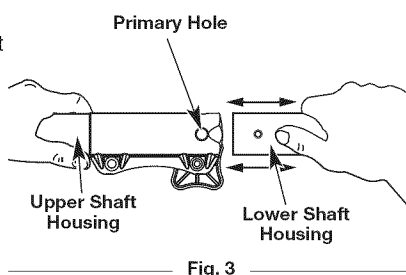

Fig. 3
- While firmly holding the attachment, push it straight into the Convertible™ coupler until the release button snaps firmly into the primary hole (Fig. 3).
- While firmly holding the upper shaft housing, pull the attachment straight out of the Convertible™ coupler (Fig. 3).